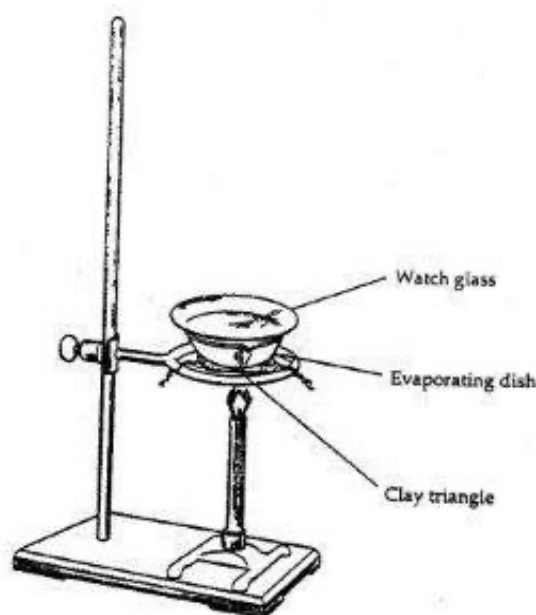

Figure 2.1
1. Place a small quantity of a substance on a clean piece of porcelain and heat moderately (see Figure 2.1).